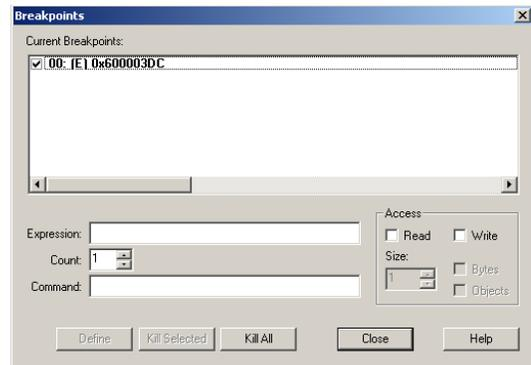

Figure 19: Breakpoints window
These are called Execution Breakpoints indicated by the (E) in Figure 19. They are set on instructions in the code space. Never on Data. See Watchpoints for operations on data accesses.
2. The Breakpoints window. See Figure 19. Open it with Debug/Breakpoints... or Ctrl-B. It is accessible only in Debug mode and when the program is stopped. Watchpoints (Access Breaks) are also entered in the Breakpoints window.
1. Hardware BPs are not eligible for all options shown in Figure 19 although Count is available.
2. You can disable a BP by un-checking the box in Figure 19 in the Current Breakpoints area.